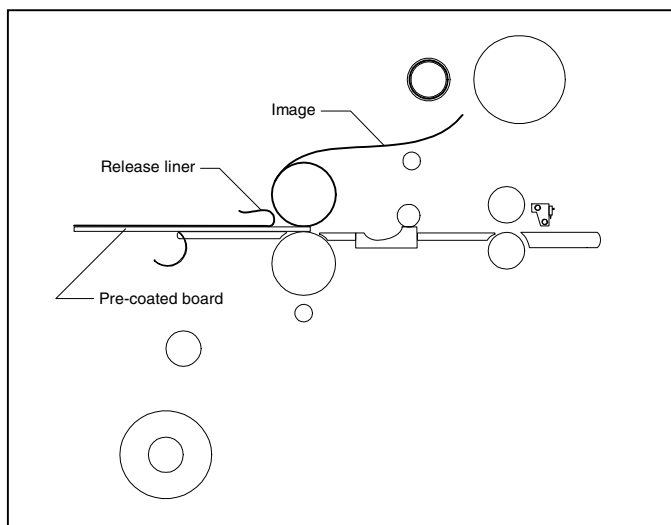

Fig. 37
**TIPS FOR MOUNTING PRE-COATED BOARDS (Figure 37)**
1. Load the laminator as illustrated in Figure 37.